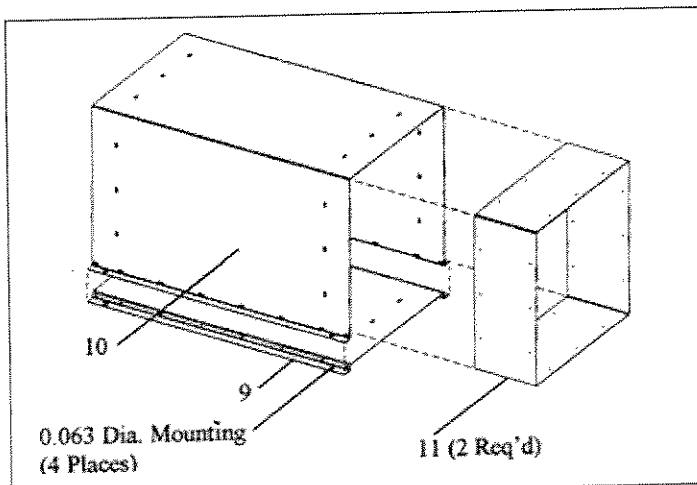

Figure 30. Installation of the Lower Duct Panel on the Upper Duct Channel.
1. Assemble one lower duct panel (9) to one upper duct channel (10) using the 0.25" self-tapping screws as shown in Figure 30.